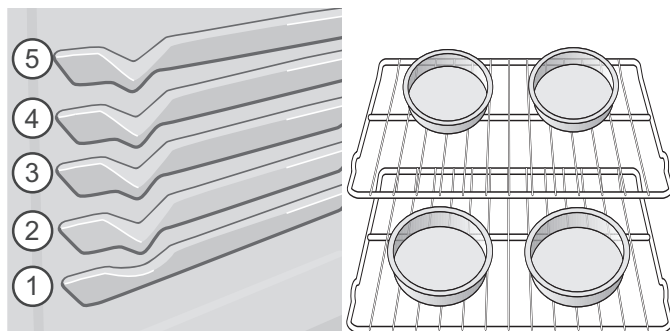

Figure 16: Rack positions and pan spacing recommendations
- For best results when baking cakes using 2 oven racks, place racks in positions 2 and 4 (Figure 16).
- When baking using 2 oven racks, position bakeware as shown in Figure 16. Allow at least 2 inches (5 cm) of space between bakeware for proper air circulation.